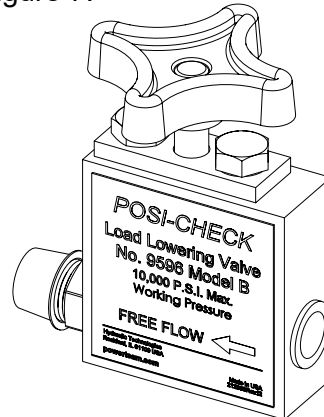

Fig. 7. Load Lowering Valve
- C. The use of a load lowering or metering valve is recommended in addition to the correct directional control valve to help prevent a falling load as shown in figure 7.